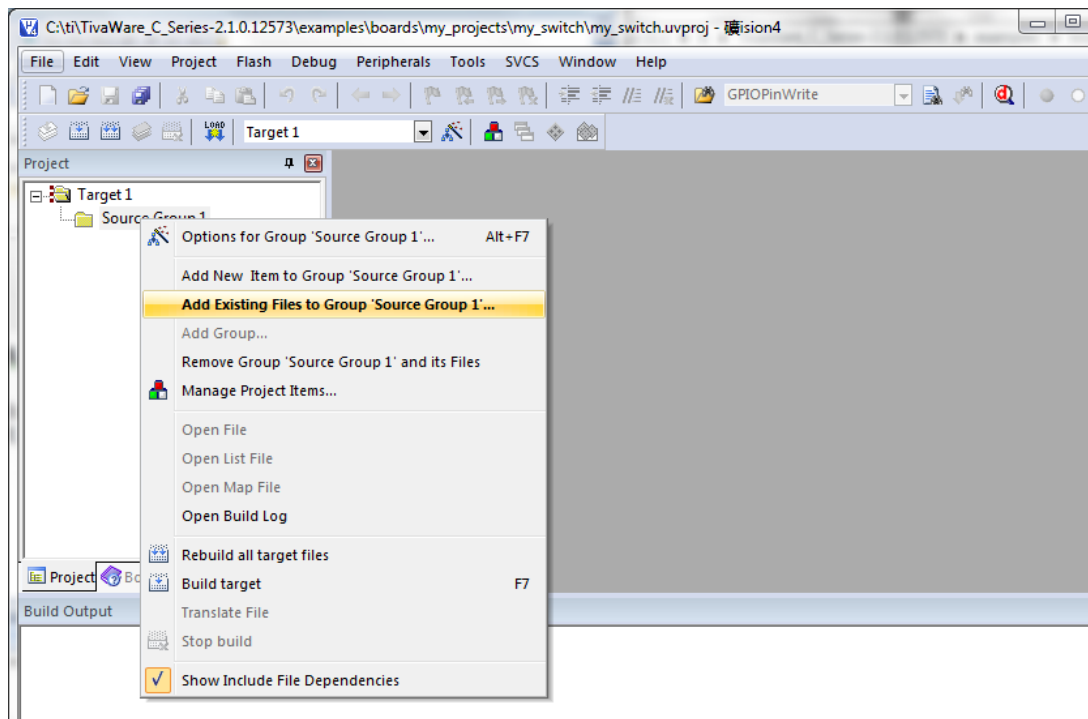
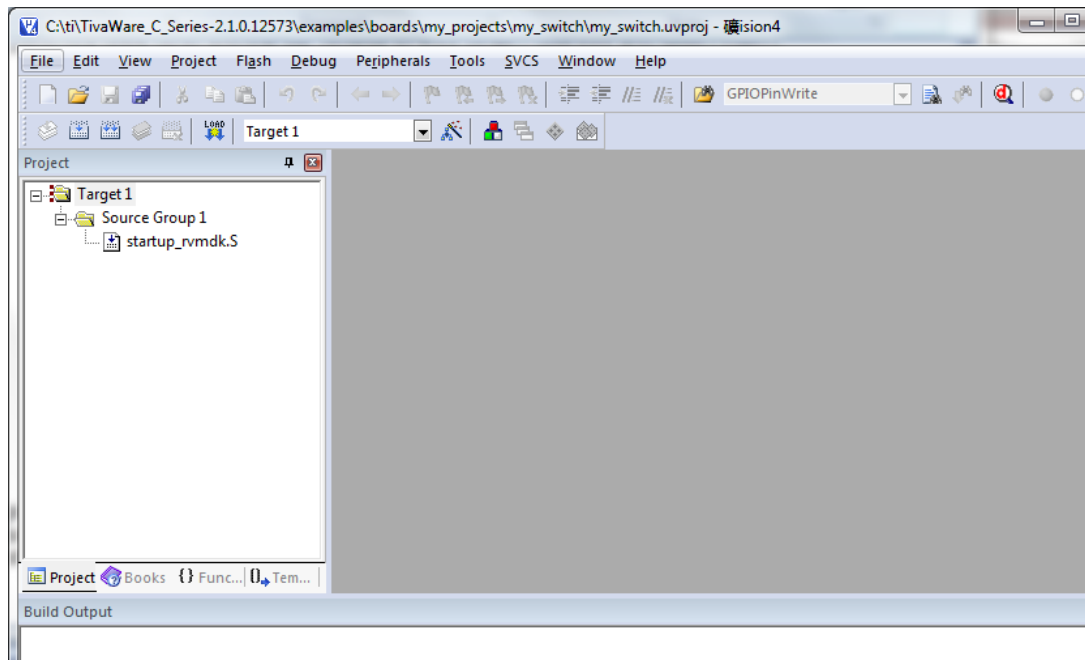

Figure 19
Figure 20
6. Next we will add the startup code to our project. Right-click the *Source Group 1* folder in the  $\mu$ Vision IDE and select *Add Existing Files to Group 'Source Group 1'...* (see Figure 19). When the dialog box pops up to find the file, browse to your project directory, select **startup\_rvmdk.s**, and add it to *Source Group 1* (see Figure 20).